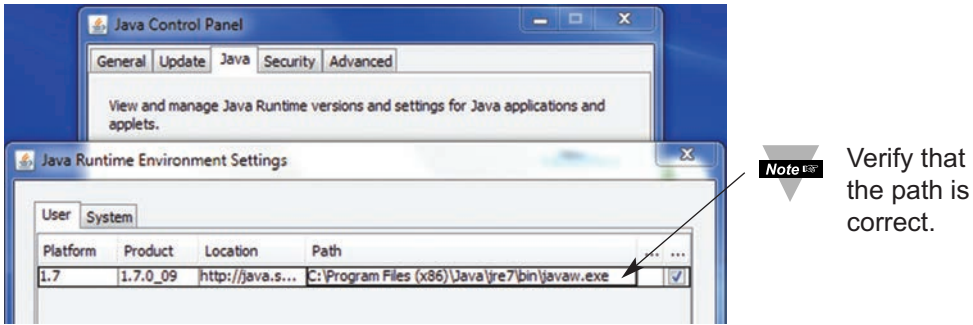

Figure 4.8 Java 1.7 Screen Shot
- Click on **Chart**, the following page (**Figure 4.8**) should appear. The Java™ Applet graph displays temperatures and the differential values, which can be charted across the full span or within any narrow range (such as 20 to 30°C). The time-base can display one minute, one hour, one day, one week, one month or one year.